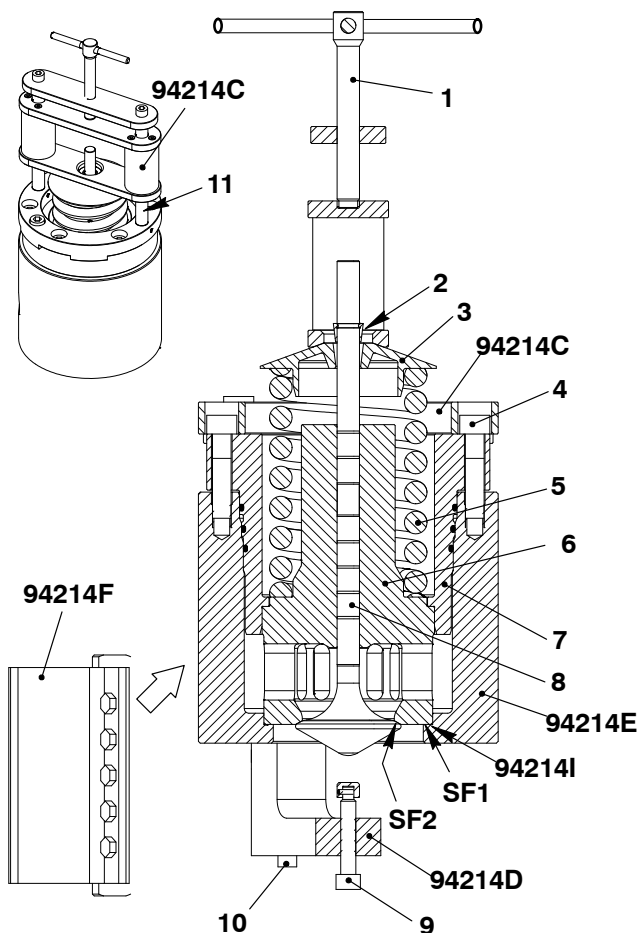

Fig. 7
- 1) Attach the steel plate (94214F, Fig. 7) to the bush (94214E) with the five screws.
- 5) Put the valve assembly (7) into the bush (94214E).
- 7) Attach the spring press (94214C) and the valve assembly (7) to the bush (94214E) with the six M10x45 screws (4).
- 8) Torque the six screws (4) to 40 Nm.
- 9) Attach the bracket (94214D) to the other side of the bush (94214E) with the two M6x75 screws (10).
- 10) Turn the special screw (9) fully in.
- 11) Turn the T-handle (1) clockwise to compress the spring (5). This pushes the valve cotter (2) out of the spring carrier (3).
- 1) Remove the spring (5, Fig. 7), refer to paragraph 4.1.